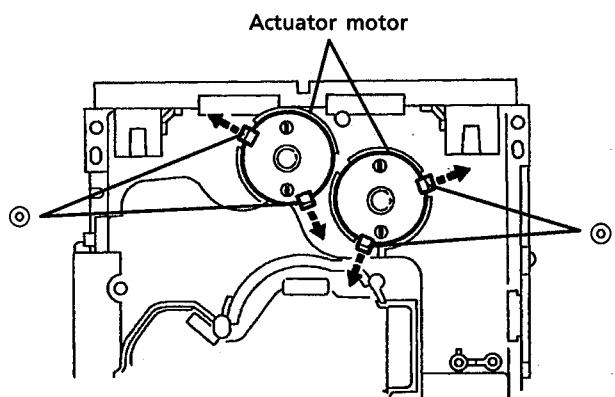

Fig. 46
5. Reverse the chassis ass'y and widen 4 poles ⑬ which secure both actuator motors to its arrows to remove the actuator motors. (See Fig. 46.)